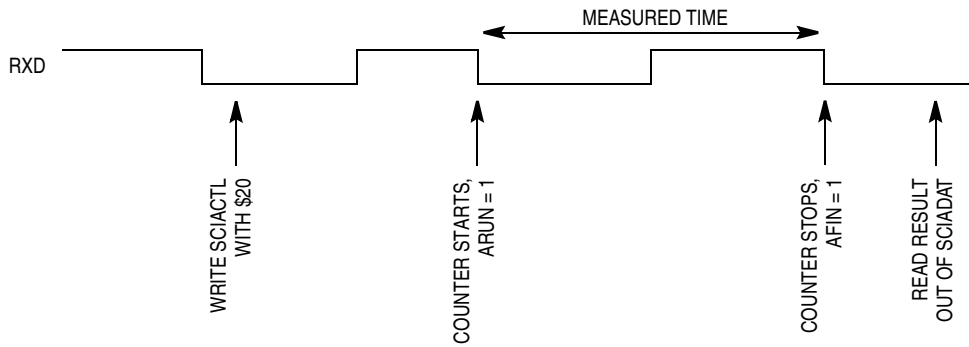

Figure 13-20. Bit Time Measurement with ACLK = 0
1. **ACLK = 0** — The counter is clocked with one half of the bus clock. The counter is started when a falling edge on the RxD pin is detected. The counter will be stopped on the next falling edge. ARUN is set while the counter is running, AFIN is set on the second falling edge on RxD (for instance, the counter is stopped). This mode is used to recover the received baud rate. See Figure 13-20.